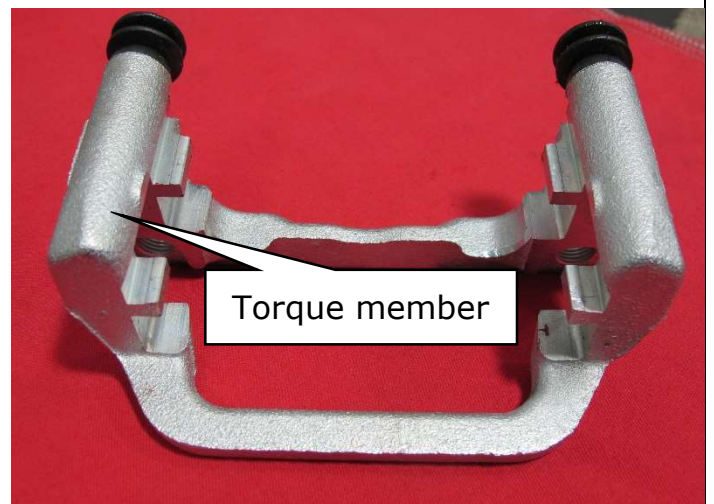

Figure 10
10. Install the new torque member assembly. (Figure 10)